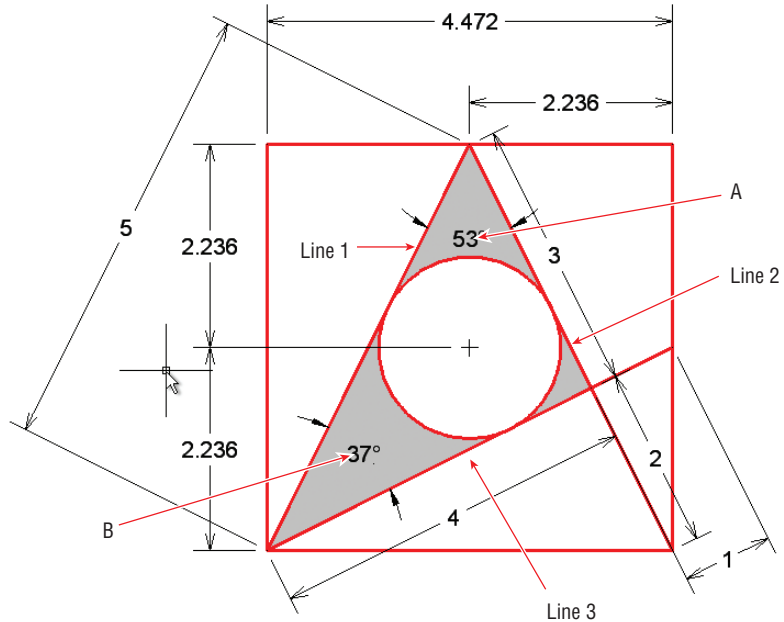

FIGURE 11.18 Adding angular dimensions
10. Open the dimension menu in the Annotation panel, and select the Angular tool. Select lines 1 and 2, as shown in Figure 11.18, and then click point A. Press the spacebar to repeat the DIMANGULAR command, select lines 2 and 3, and then click point B.